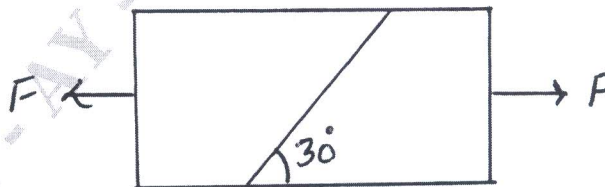

Fig.Q3(b)
- A short cast iron pillar of 625 mm^2 cross-section carries an axial compressive load of 100 kN. Calculate normal and shear stress on a plane inclined at 30° to the axis of the pillar as shown in Fig.Q3(b).